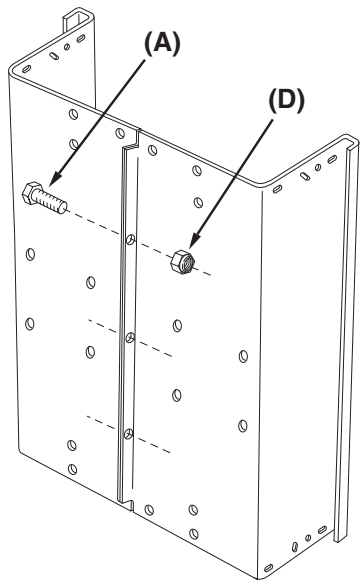

Figure 1
**STEP 1 (SEE FIGURE 1):** Assemble the cart body using three 1/4" x 5/8" hex bolts (A) and 1/4" nylock nuts (D).